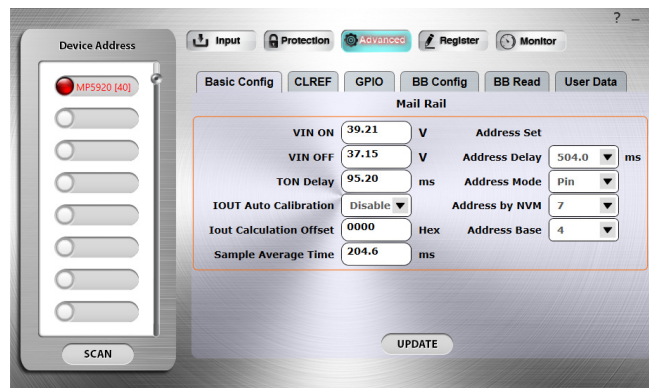

Figure 6: GUI Advanced Page, Basic Configuration Tab
- a. Basic Configuration: Set the VIN on/off threshold, t_{ON} delay time, sample average time, and address selection (see Figure 6).